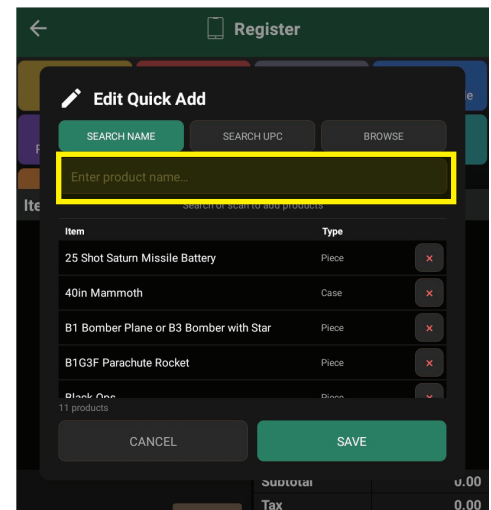

Figure 49
2. Scan (Tap Search UPC) or Type to begin your product search (Figure 49).
4. From the list of results, carefully select the correct item by tapping the green Select button (Figure 49).